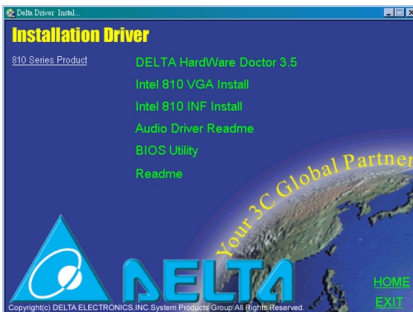
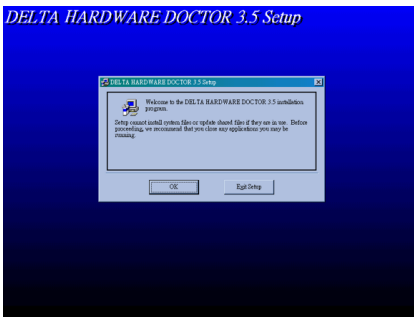

Figure 3
Figure 4
- Click “M81DC-MX” or others MX Series Mode (mode of your motherboard) under “Socket 370 Intel 810 Series Motherboard” the following screen will appear Figure 3.
- Click “DELTA Hardware Doctor 3.5” on the Figure 3, the following screen will appear Figure 4.
- Click “Intel 810 VGA Install” on the Figure 3” the following screen will appear Figure 8.
- Click “Intel 810 INF install “on the Figure 3, the following screen will appear Figure 13.